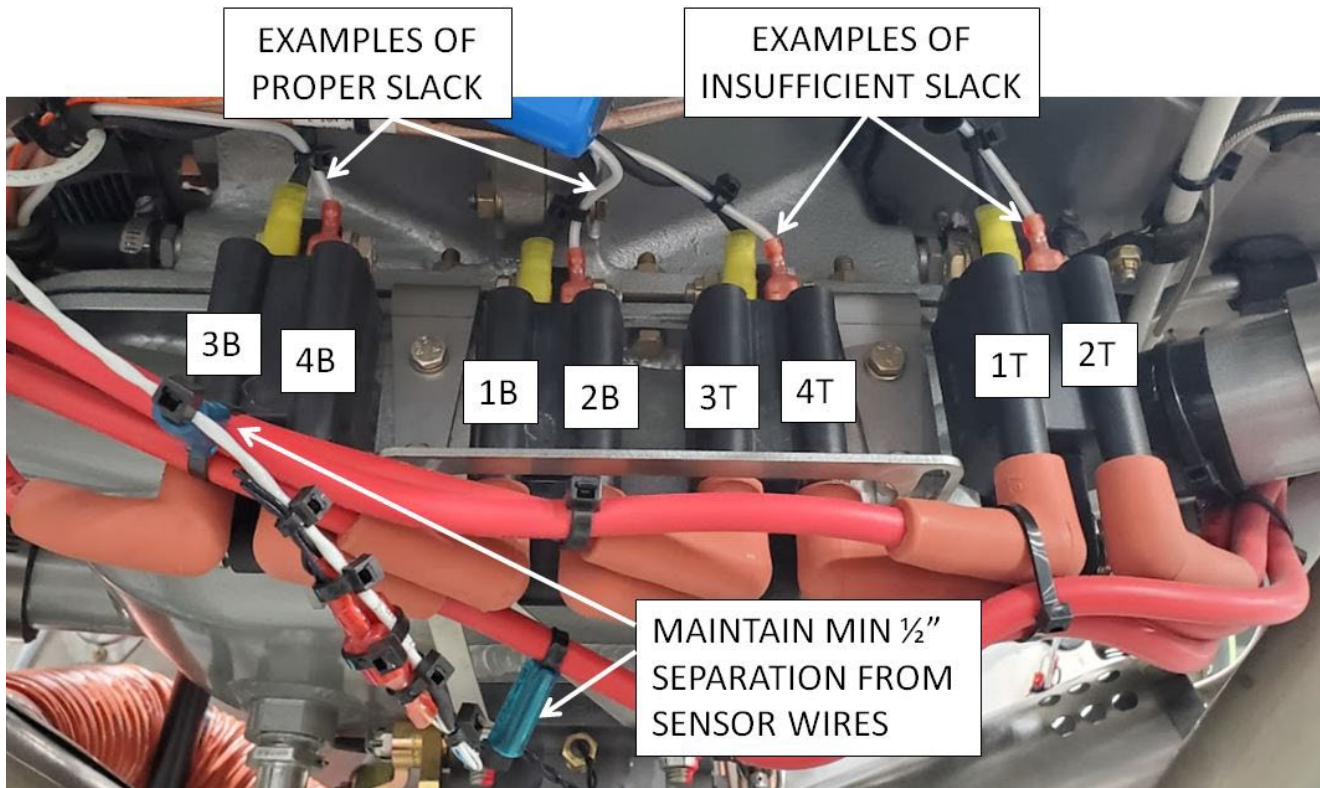

FIGURE 5 – IGNITION COIL CONNECTIONS
- 13.** Install the spark plug wires and corresponding ignition wires onto coils as shown in Figure 5. Note that the two ignition wires and the two spark plug wires connected to each coil are not polarity-sensitive. Ensure plug wires click and seat fully onto studs. Ensure spade connectors fit tightly onto the coil, and ignition wires have proper slack, referring to SK-SB010 for more detail. Should it be necessary to replace the ignition wires to achieve proper slack, wire and heat shrink part numbers are shown in the parts list. Spark plug wire part numbers are also provided in the parts list.